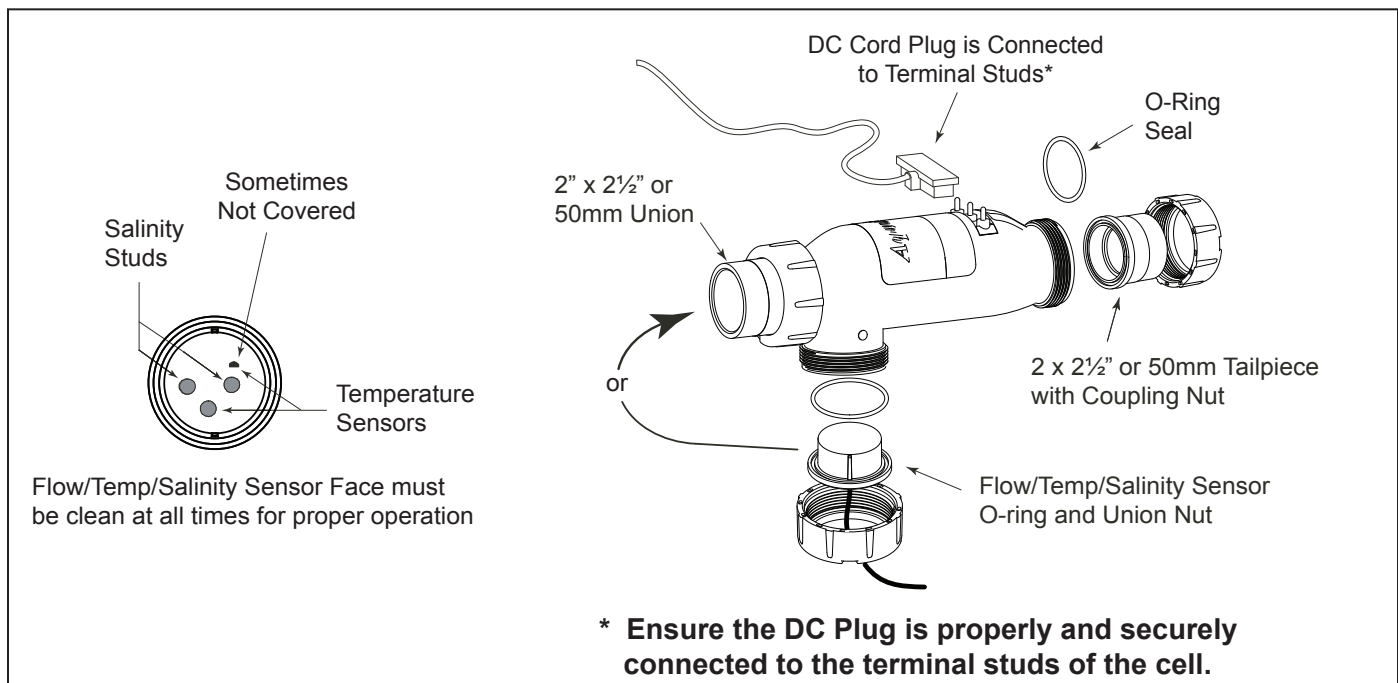

Figure 11. Cell Installation and Flow/Temp/Salinity Sensor
- Mount as shown in Figure 11. This will result in the most reliable operation.
- (1) In one of the available ports in the electrolytic cell
- (2) In the same line prior to the cell with no valves or diverters between the flow/temp/salinity sensor and cell.
6. Install the flow/temp/salinity sensor into the 3-Port cell. See Figure 11.
7. Install the flow/temp/salinity sensor into the available sensor port (See Figure 11).
- g. Install the new flow/temp/salinity sensor into the 3-port cell (See Figure 11).